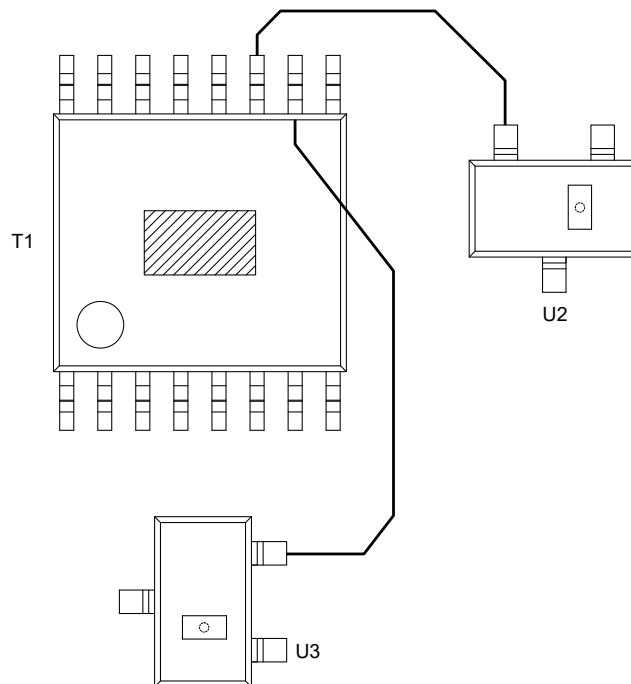

Figure 2. Schematic connection diagram of AMR3108AP and switches (Top view)
(1) AMR3108AP can be set to SPI output full duplex while the angle measurement range is 0° to 180° (duplex change from 0 to 4095 LSB in the measurement range). For example: factory default model AMR3108AP-2-0-1024.
(2) AMR3108AP can be set to SPI output half duplex while the angle measurement range is 0° to 180° (duplex change from 0 to 2047 LSB in the measurement range). For example: it is able to set to AMR3108AP-3-0-1024.
(3) AMR3108AP can be set to the angle measurement range is 0° to 360°. For example: it can set to AMR3108AP-1-0-1024. In this mode, two switch sensors (e.g. TMR1202S) should connect to pin SW0 and SW1 of AMR3108AP to determine the phase of signals, and their relative position is shown in Figure 2. AMR3108AP works in saturation status, and therefore, it can provide better accuracy and repeatability than TMR and Hall rotation sensors.